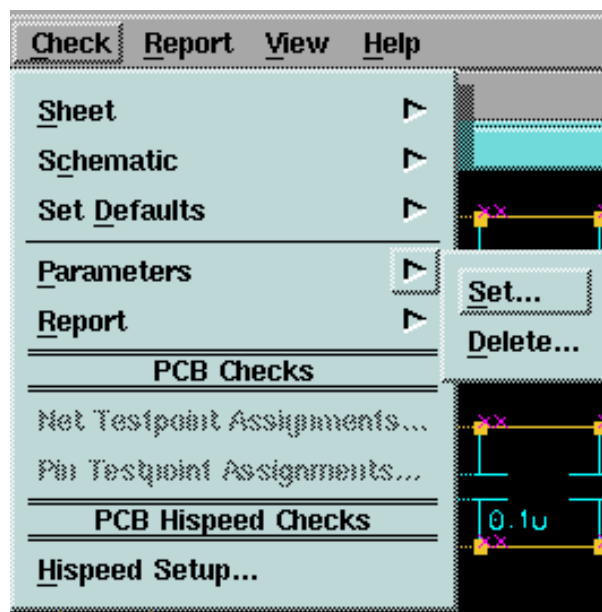

Figure 2-38. Check > Parameters Menu
1. Choose the **Check > Parameters > Set** pulldown menu item shown in Figure 2-38.